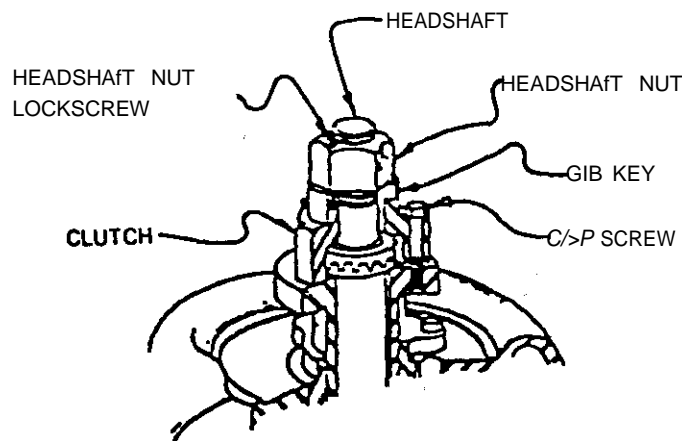

Figure 4-C
15. Install clutch on driver being careful that it fits down properly. See **Figure 4-C**.